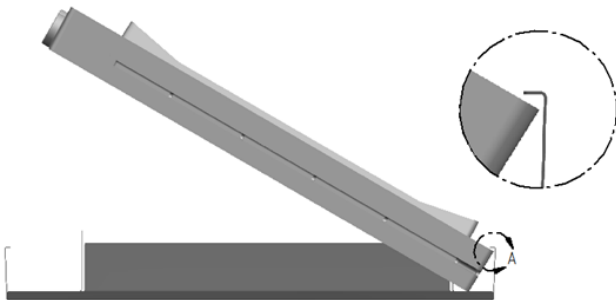

FIGURE 3
7. To install the drain pan metal reinforcement, lift your drain pan upwards and tilt it upwards 30-45 degree range as shown in Figure 3. Inserting the drain pan underneath the Drain Pan Metal Reinforcement lip.